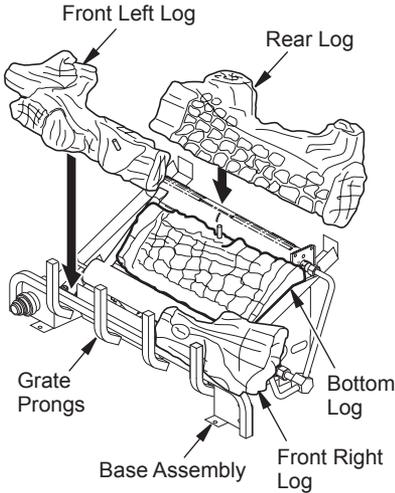

Figure 25 - Installing VUL Model Log Sets
- Place bottom log in center of the base assembly as shown in Figure 25, page 19.
- Rest rear log in back corner sections of base assembly as shown in Figure 25, page 19. Make sure log is completely vertical and not leaning in toward burner where the flame will touch the log.
- Position front right log against right side of grate prongs (see Figure 25, page 19).
- Position front left log against left side of grate prongs (see Figure 25, page 19).